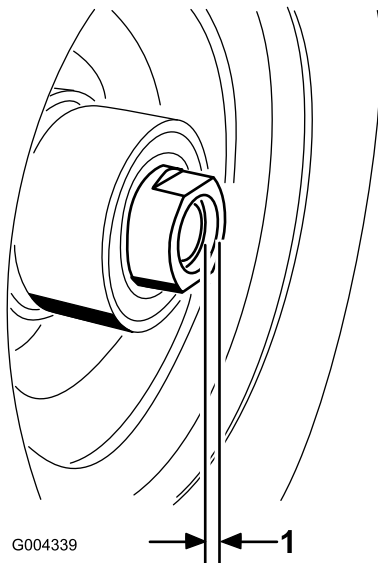

Figure 29
11. If both spacer nuts were removed from the axle, apply thread locking adhesive to the spacer nut. Install the spacer nuts onto the axle leaving an 1/8 inch (3mm) of the nut past the axle (Figure 29).
16. Torque the spacer nut to 75-80 in-lb (8-9 N·m) then loosen it and torque it to 20-25 in-lb (2-3 N·m). Make sure the axle does not extend past either nut (Figure 29).